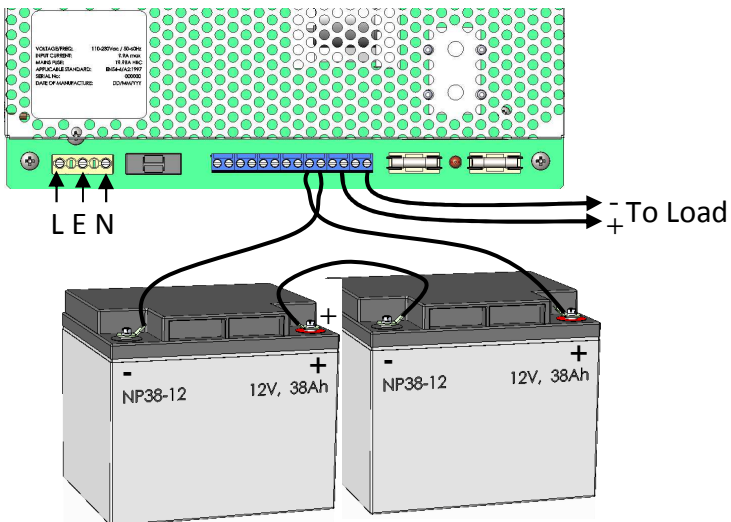

Figure 2 – Power, Load and Battery connections
- 5) Connect the load (output) wiring as shown in Figure 2.
- 12) Connect the free Positive and Negative terminals of the batteries to the PCB terminals Batt+ and Batt - using the cables provided. See Figures 2 & 3.